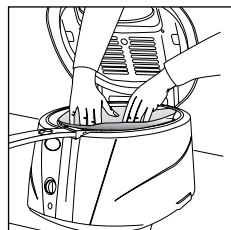

fig. 7
- Put the basket back in the high position and place one of the filters supplied at the bottom of the basket (fig. 7). You can obtain the filters from your retailer or one of our service centres.